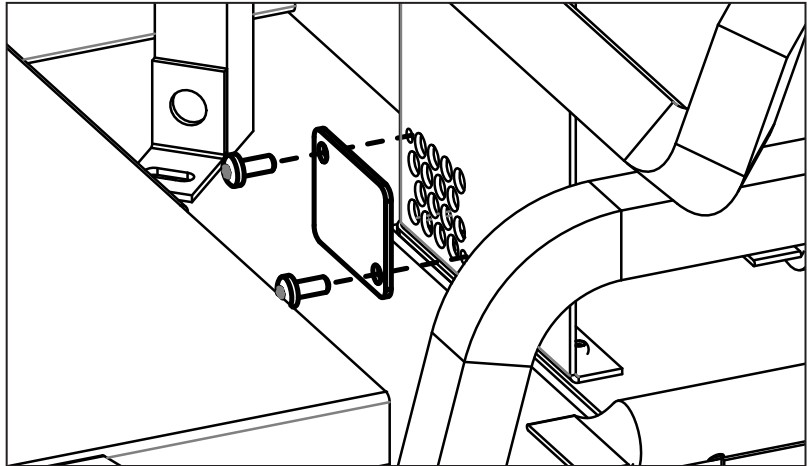

Figure 24: Burner Conversion 5" x 8" Venting
4. Near the rear of the burner box, there are two small cover plates (one on each side). Remove the two (2) T-20 screws securing each of the cover plates onto the burner box (see Figure 24). This provides more air to the burner and makes a significant difference when using 5" x 8" venting.